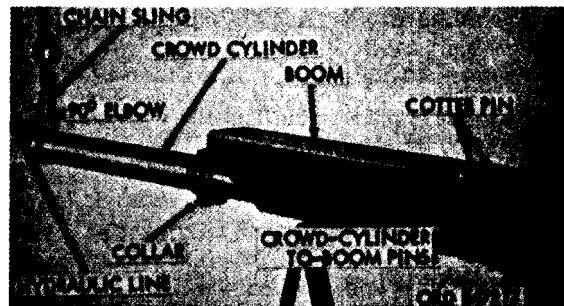

Figure 429. Removing boom crowd cylinder from boom
- (6) Pull boom from shipper, place boom on suitable supports, and remove hoist and chain sling.
- (7) Remove cotter pins (fig. 429) and crowd - cylinder - collar-to-boom, and pull cylinder from boom far enough to permit attaching a chain sling.
- (8) Attach chain sling (fig. 429) and overhead hoisting equipment to crowd cylinder, and remove cylinder from boom.
- (9) Remove 90° elbow (fig. 429) with hydraulic line attached from crowd cylinder.
- (1) Install 90° elbow (fig. 429) with hydraulic line attached in port on top of crowd-cylinder head.
- (2) Supporting crowd cylinder with chain sling (fig. 429) and overhead hoisting equipment, slide cylinder into position inside boom. Remove hoist and chain sling.
- (3) Aline holes in crowd-cylinder collar (fig. 429) with holes in sides of boom